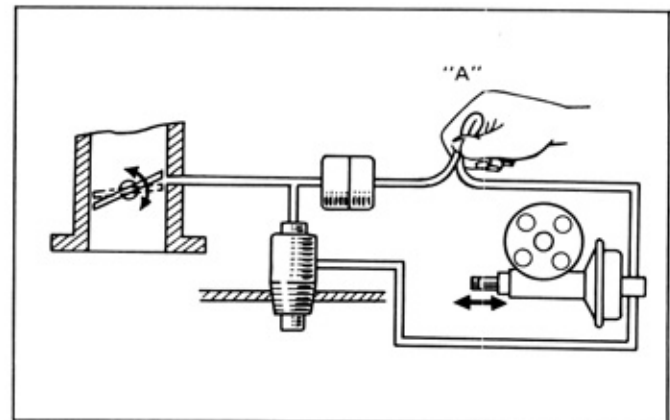

Fig. 18-60 TVSV Inspection (Cold)
- b. At coolant temperature below 95°F, start the engine. With the hose "A" shown in Fig. 18-60 pinched with finger, check the distributor octane selector to see that it will move when the throttle valve is opened and closed.